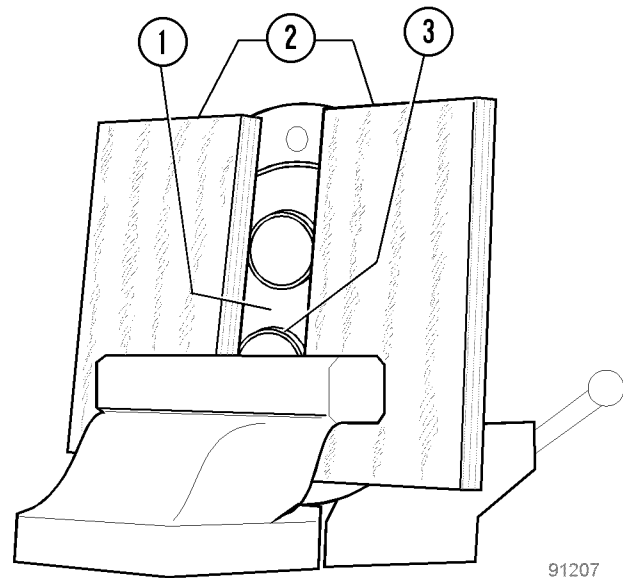

FIGURE 3-10. SHAFT SEAL INSTALLATION
2. Place the wood blocks flat against the fixed jaw of the vise. Place the flange plate against the blocks in such a position that the bearing projections are between the blocks and clear of the vise jaw (see to Figure 3-10).